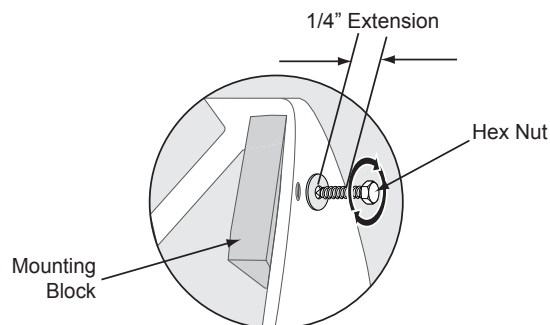

Figure 9
- 6 Adjust the fasteners at the top edge of the skirt. Make sure the 10 hex-head screws around the top edge of the skirt extend about 1/4" beyond the outside surface of the skirt (Figure 9).